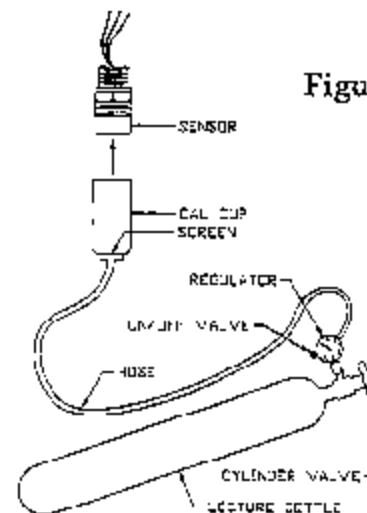

Figure 13
- Place the cup from the portable purge calibrator over the sensor (figure 13).